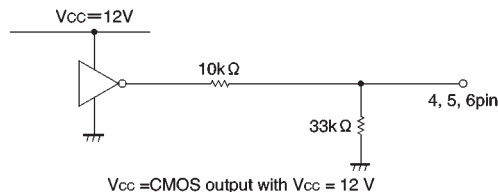

Fig.7
(1) Though the IC input pins can be directly connected with MOS output pins, it is recommendable to connect resistors of about 3 ~ 30kΩ between the pins for the sake of pin protection (see Fig. 7).
(2) When reversing the rotational direction of a motor, make sure to go through the brake mode in-between the opposite directions. It is recommendable to keep the brake mode for at least 10μs.
(3) Powering procedures should be designed so that  $V_{CC1}$  (pin 7) always rises first and falls last.
(4) The quality of these products have been carefully checked; however, use of the products with applied voltages, operating temperatures, or other parameters that exceed the absolute maximum rating given may result in the damage of the IC and the product it is used in. If the IC is damaged, the short mode and open modes cannot be specified, so if the IC is to be used in applications where parameters may exceed the absolute maximum ratings, then be sure to incorporate fuses, or other physical safety measures.